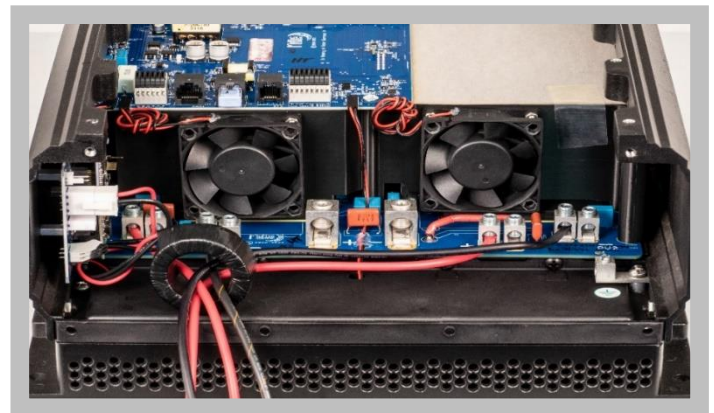

Figure 12
3. Pass all **PV+ AND PV-** wires through the GF toroid, as shown in **Figure 12**.